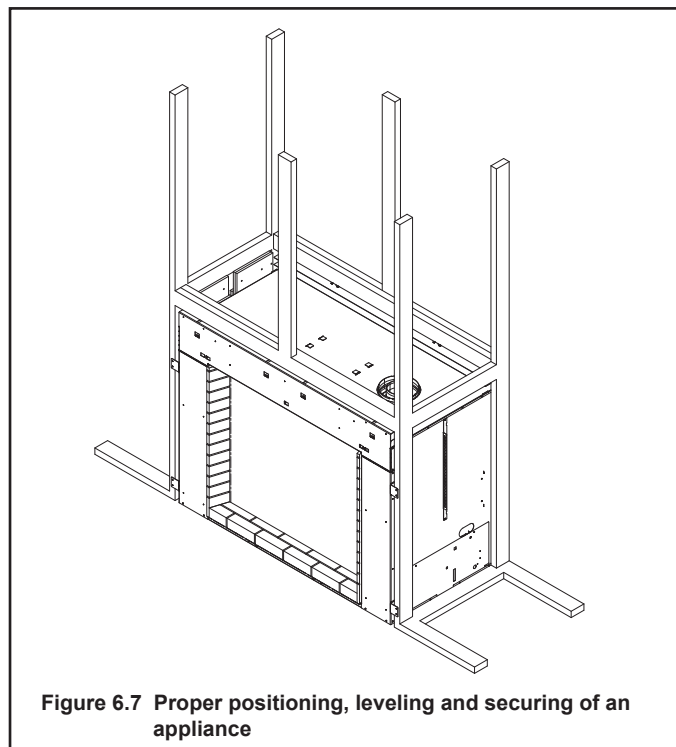

Figure 6.7 Proper positioning, leveling and securing of an appliance
4. Six sheet metal finishing strips are included with the appliance. The shipping location of the finishing strips is shown in Figure 6.3. Remove 1/4 in. screws that attach the strips to the appliance. Strips may be used during the final finishing steps of appliance setup. See Figure 6.7. Strips should be removed when finishing is completed.
The diagram shows how to properly position and secure the appliance. See Figure 6.7. Nailing tabs are provided to secure the appliance to the framing members.